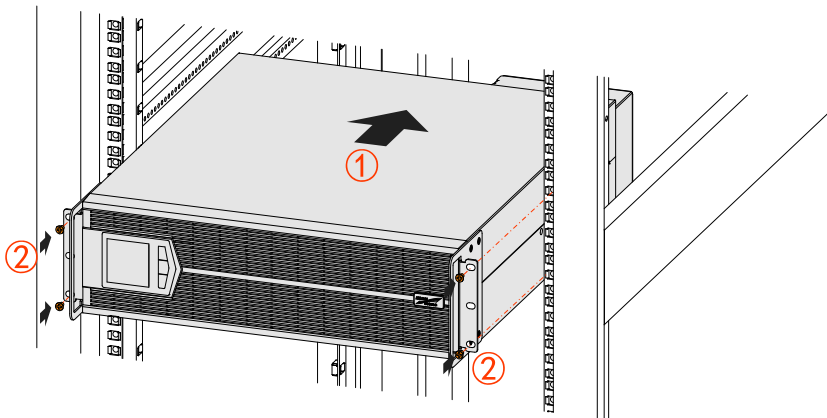

Figure3-7 Fasten the UPS
Step 2 Push the UPS into the cabinet, and fasten it by screws, as shown in Figure3-7.